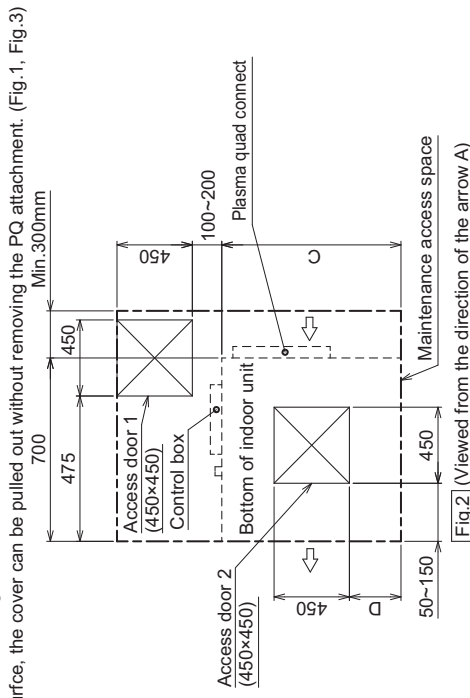

Fig.2 (Viewed from the direction of the arrow A)
• Create access door 1 and 2 (450×450mm each) as shown in Fig.2.
(2) When a space of less than 300mm is available below the unit between the unit and the ceiling.